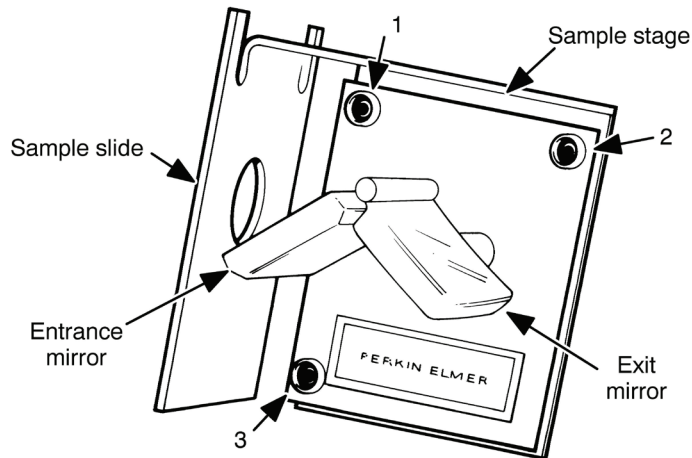
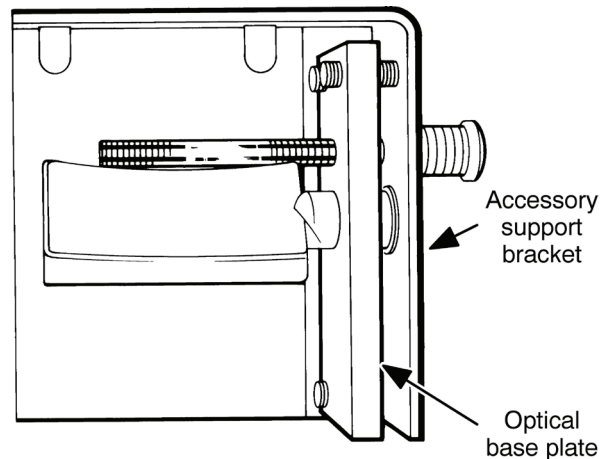

Figure 5 Parts used in alignment
Figure 6 Side view of the FASR Accessory, showing two plates
1. Before installing the accessory, place it on a bench top as shown in Figure 5. Look from the right side and locate the following two vertical plates, using Figure 6 for reference:
2. Using the wrench provided, adjust the three 10-32 socket set screws in the optical base (numbered 1, 2, and 3 in Figure 5) so that the space between the optical base and the support bracket is approximately 3/16 inch (5 mm) all around.
7. Place the sample slide of the accessory (Figure 5) in right slot.
9. While looking up from below, rotate the entrance mirror (Figure 5) so that the light from the alignment tool LED passes through the center of the sample aperture.
13. Rotate the exit mirror of the accessory and adjust screws 2 and 3 in Figure 5 until the movable part of the beam is centered on the exit window.